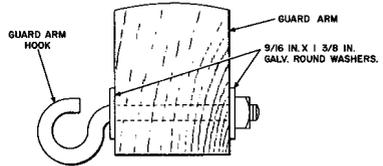

FIGURE 3. Guard Arm Hook Installed
2.03 Guard arm hooks are used to attach wires to guard arms and also to cross arms other than the DE-type when more than two drop wires must be attached to the same hook. On a guard arm, install the hooks in the holes provided at the ends of the guard arm. See Figure 3. When the guard arm hooks are used on a crossarm, it may be necessary to drill a 9/16 or 5/8 inch hole for each hook required in the side of the crossarm. Center the hole between the top and bottom of the arm and between pins or closer to the pole if adequate clearances can be obtained and climbing space is not obstructed.